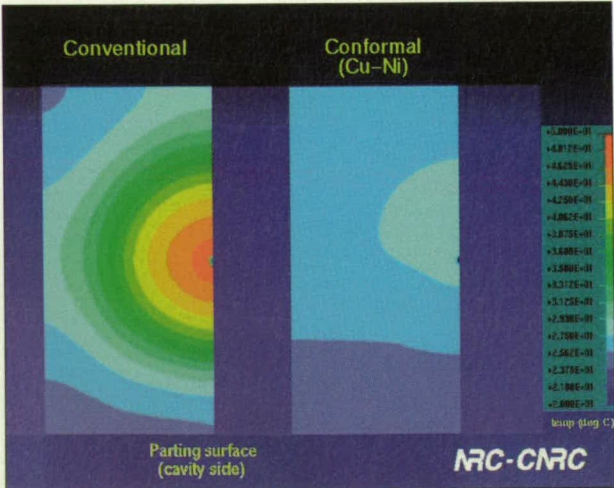

Figure 8: Cavity temperature distributions
Figure 8 is another pseudo-color image of the temperature distribution on the cavity side of the tools for: (1) the conventional H-13 tool with DCC on the left; and (2) the Ni-Cu tool with CCC on the right. Here the effect is even more dramatic than on the core side. The value of °Tmax for the H-13/DCC tool is 18.6°C. The value for the nickel/copper tool is only 1.9°C, or essentially an order of magnitude reduction in mold temperature variance.